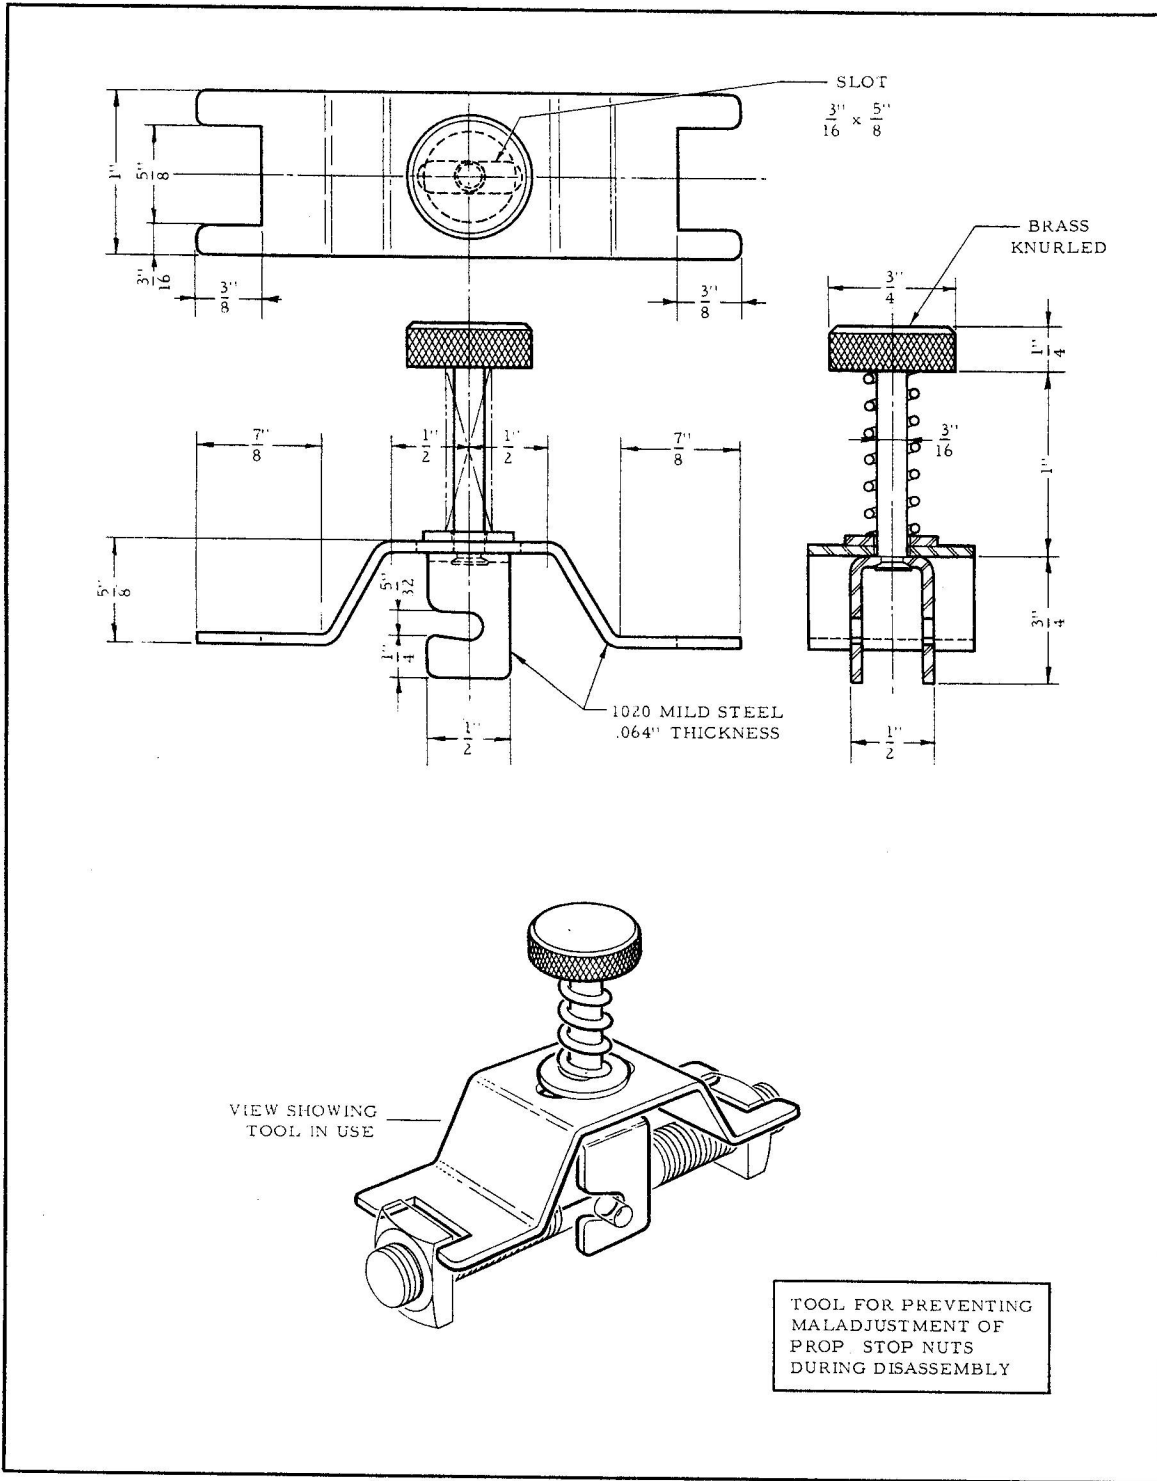

Figure 1
- 3 Two of these tools are required and are to be locally manufactured as per Figure 1.